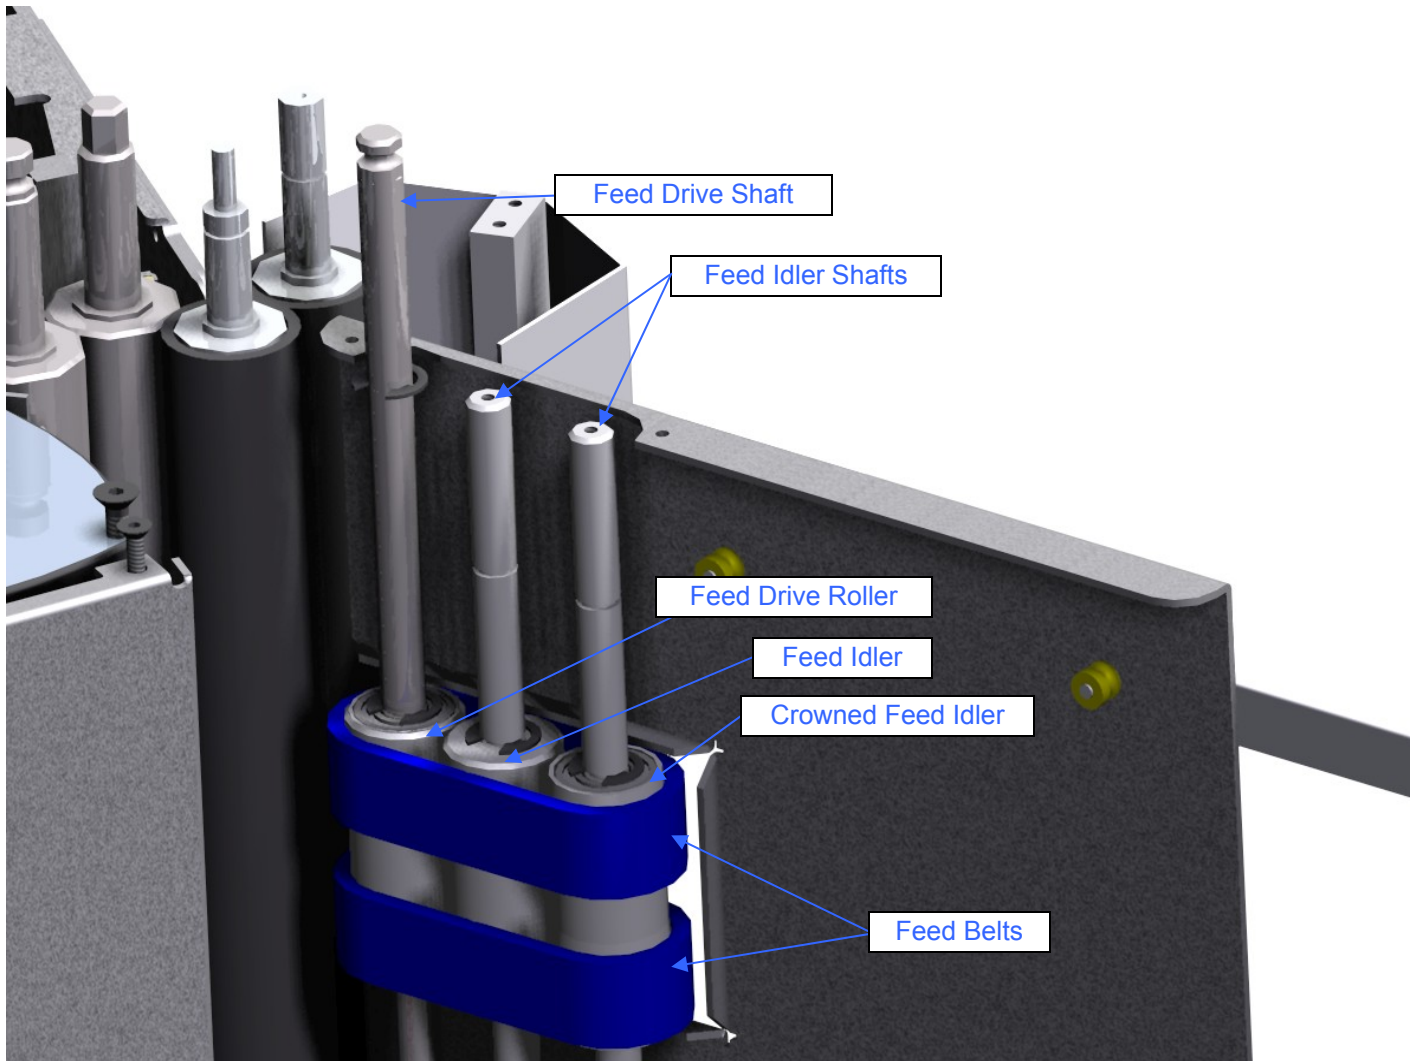

Figure 8: Feed Table Removed
8. The **Feed Drive Roller** contains a **1-Way Bearing**, which should always face the **Electrical Side Frame** when re-assembled [Figure 8].
9. Place the new **Feed Belts** over the **Feed Drive Shaft** and **Feed Idler Shafts** [Figure 8].